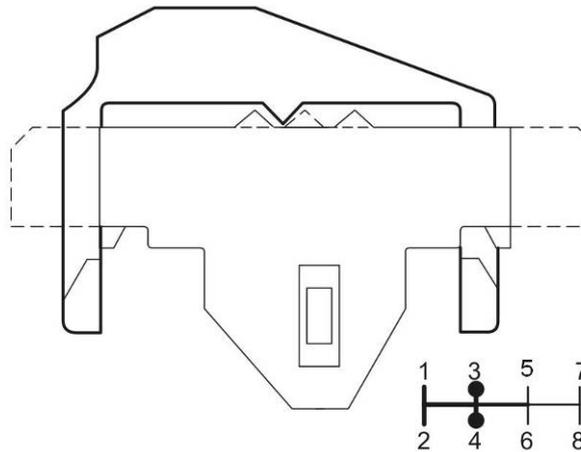

Figure 20 Third or Fourth Gear Selected
- c. **Third or Fourth Gear Selected.** If third or fourth gear ratio is selected, the lower detent plate is moved by the detent plunger. The arrangement of the neutral detent mechanism at this stage is as shown in Figure 20. The path to neutral A or C is now available.